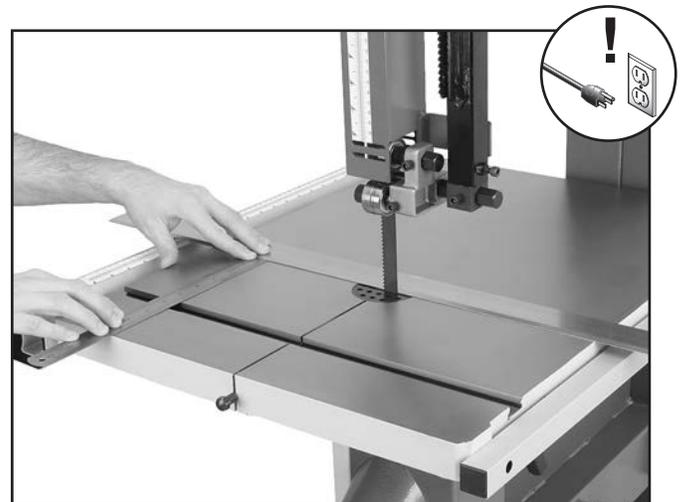

Figure 37. Measuring for table-to-blade parallelism.
4. Place an accurate straightedge along the blade. The straightedge should lightly touch both the front and back of the blade (see **Figure 37**).